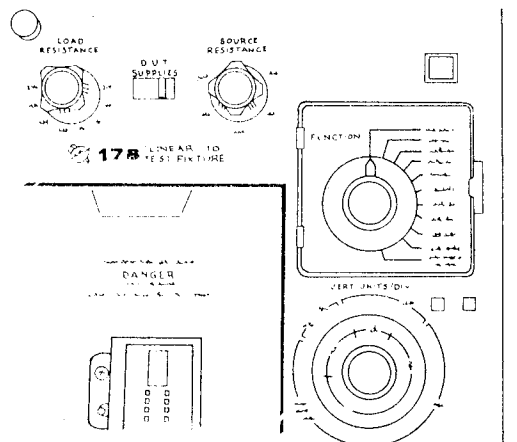

Figure 0-2 Installing nomenclature panel
- 2) Install AMPLIFIER nomenclature panel on FUNCTION SWITCH. If panel is not in place around FUNCTION switch, install it now. See Figure 0-2. **(B)**